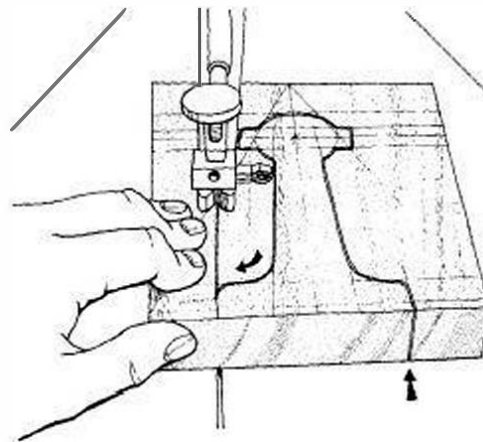

FIGURE 3-2
- 2 Having double-checked from pillar to pillar that the circle center-points, meaning the points that mark the center of the rod hole, are the same distance up from the baseline, use the scroll saw to cut out the two identical forms (Fig 3-2).